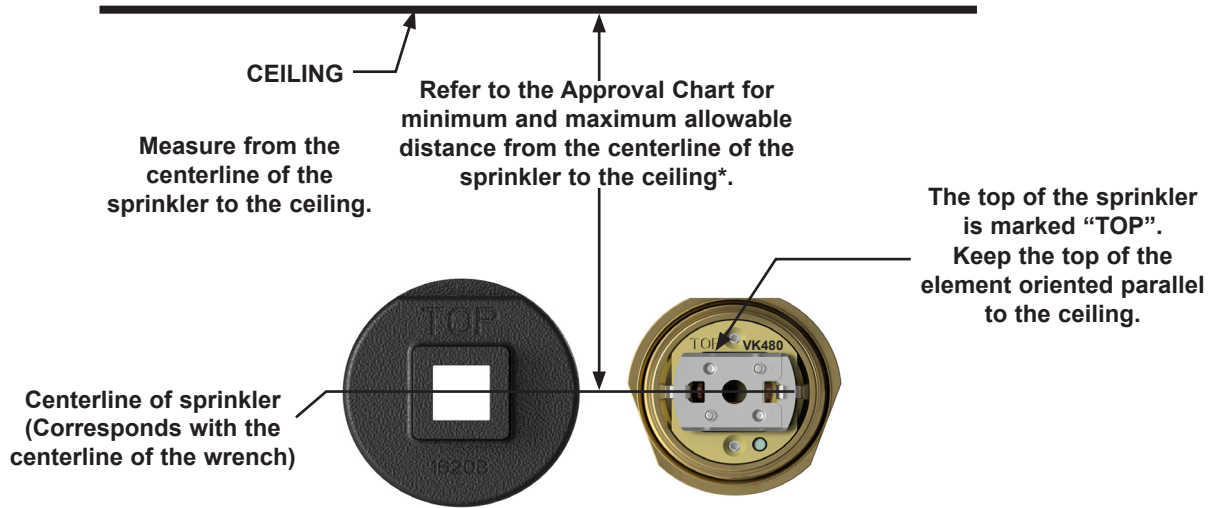

Figure 3: Sprinkler VK480 Correct Deflector Orientation
- **THE TOP OF THE SPRINKLER BODY AND THE TOP OF THE INSTALLATION WRENCH ARE MARKED “TOP”.** Orient the top of the sprinkler element parallel with the ceiling as shown in Figure 3.